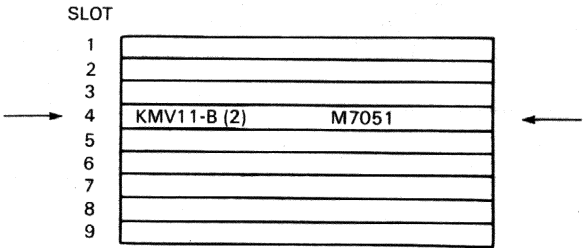

Figure 16 Backplane Position
5. Fit new PCB (see Figure 16)